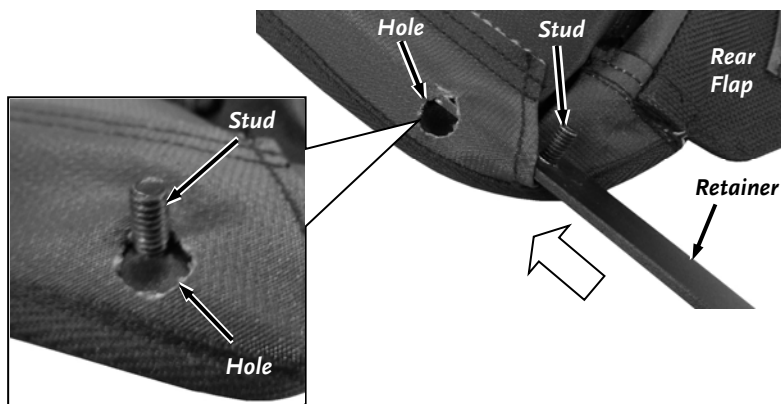

Figure 27
8. Insert the front end of the Side Retainer into the rear end of the pocket so when installed the Side Retainer will be in the same orientation shown in the photo. It works best to keep the studs tilted sideways until they all align with the Enclosure holes, then twist the Retainer so the studs go into the holes (**Figure 27**).